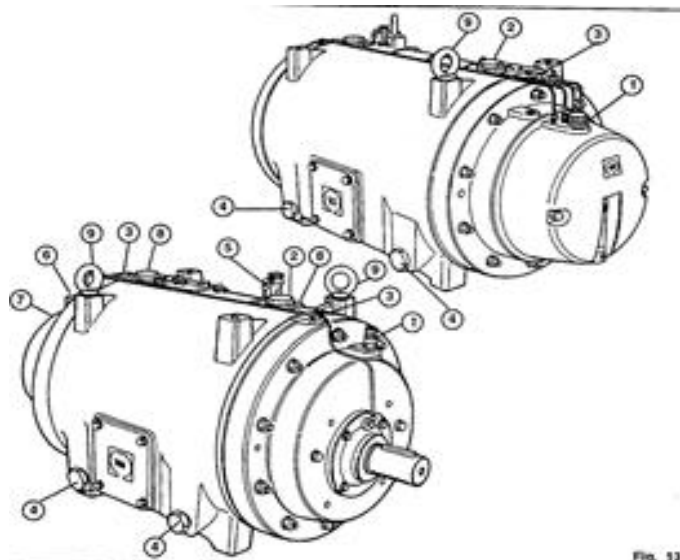

Fig. 13
- Remove the hexagonal socket cap, fig 13, page 9